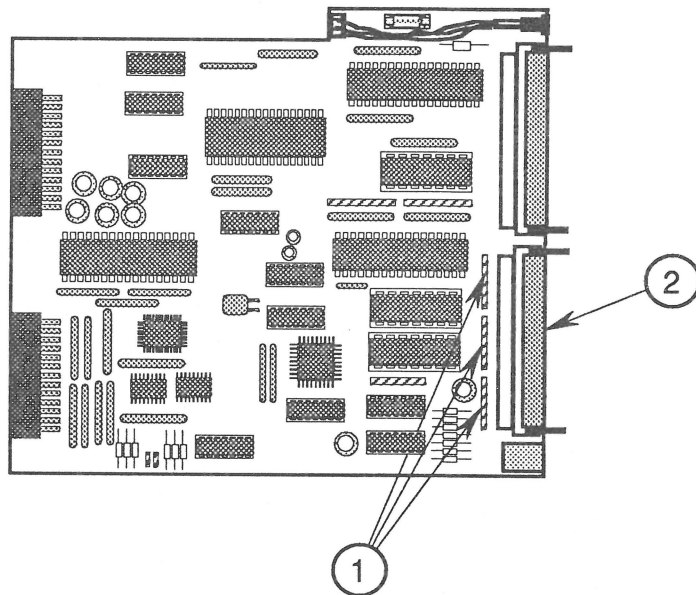

FIGURE 11
3. Locate the three capacitors at locations CA4, CA5, and CA6 (Figure 11, #1) on the main logic PCB, next to the SCSI connector at CN6 (Figure 11, #2).